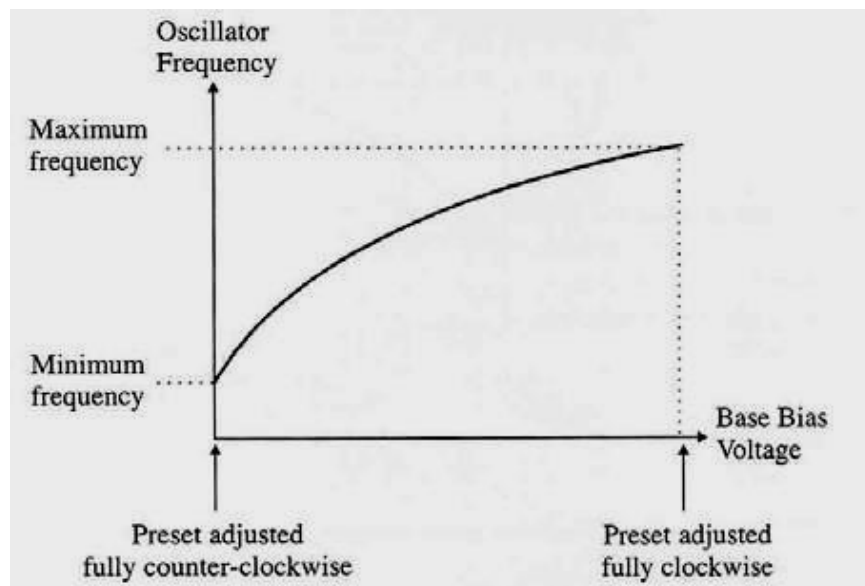

Figure16: A graph of DC Voltage / Frequency Output for a Varactor Modulator
10. Record output frequency measured at tp34 and the DC input voltage measured at tp21. Take 10 readings as the carrier frequency preset is increased to enable a graph of DC voltage/frequency output to be plotted. The result would be similar to that shown in Figure 16.